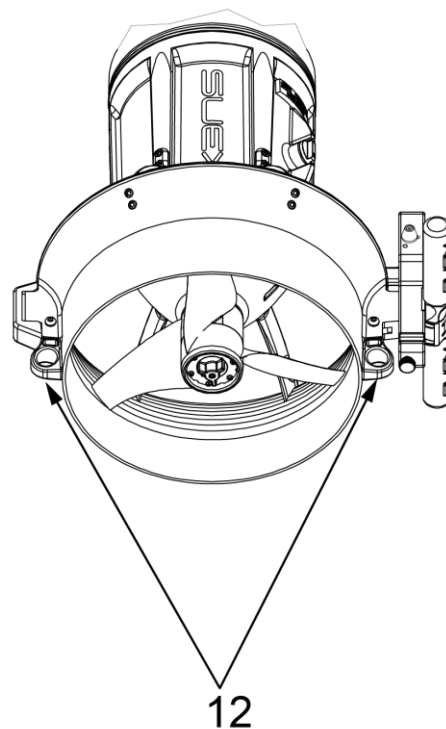

Fig 2 - Attack points
In the rear section, a maneuvering handle (1) is provided, which integrates a trigger (2) controlling a metal lever (3). This lever regulates the rotation of the propeller (10) situated at the rear end. The propeller generates propulsion thrust and is safeguarded by a radial circular band functioning as a flow conveyor (5). Additionally, the rear section includes the main switch (6) for disconnecting the power supply, a speed adjustment knob (7), and two rope attachment points (12 - **Fig 2 - on p. 6**).